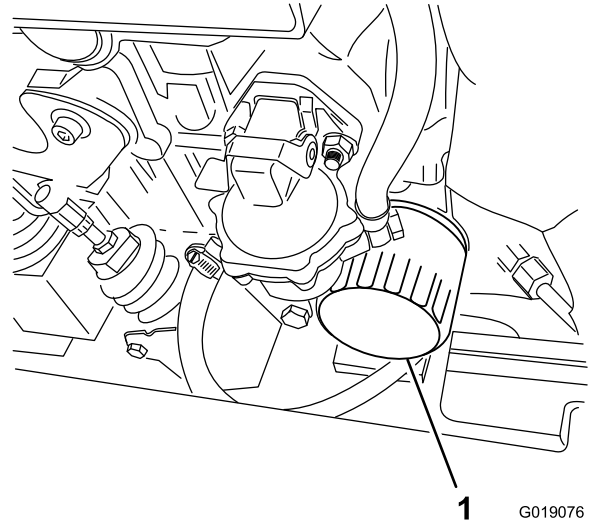

Figure 59
1. Place a shallow pan or rag under the filter to catch oil (Figure 59).
2. Rotate the oil filter counterclockwise and remove the old filter (Figure 59).
5. Install the replacement oil filter to the filter adapter. Turn the oil filter clockwise until the rubber gasket contacts the filter adapter, then tighten the filter an additional 1/2 turn (Figure 59).